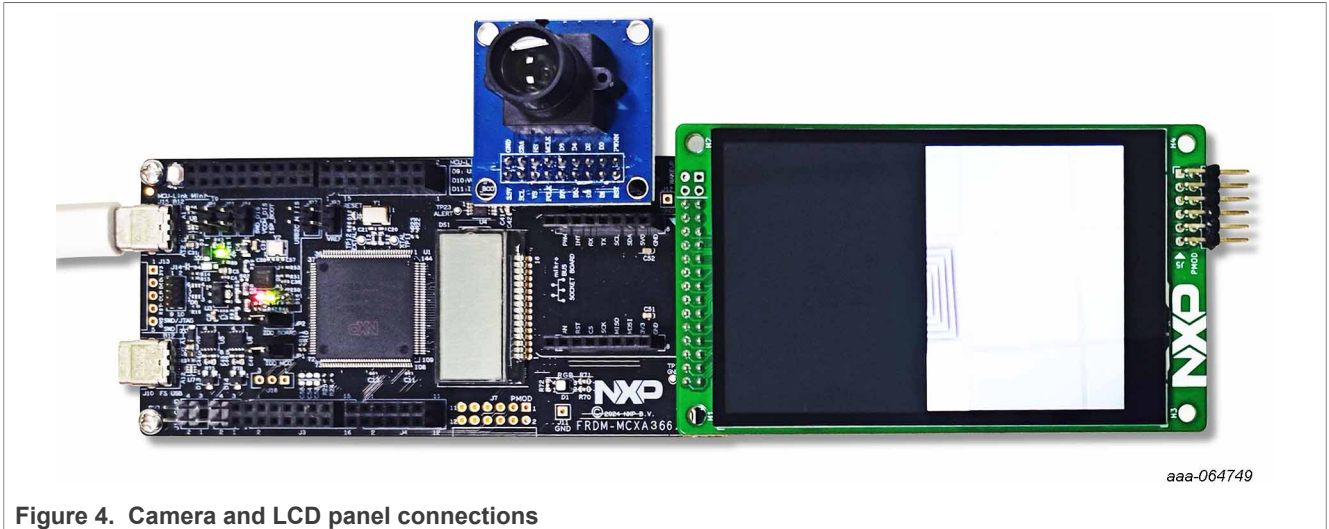

Figure 4. Camera and LCD panel connections
- Ensure all connections match the pin mapping as shown in Figure 4 ((D0–D7, VSYNC, HREF, PCLK, XCLK, I2C lines, and power).
- The LCD displays the video frame from the camera, as shown in Figure 4.